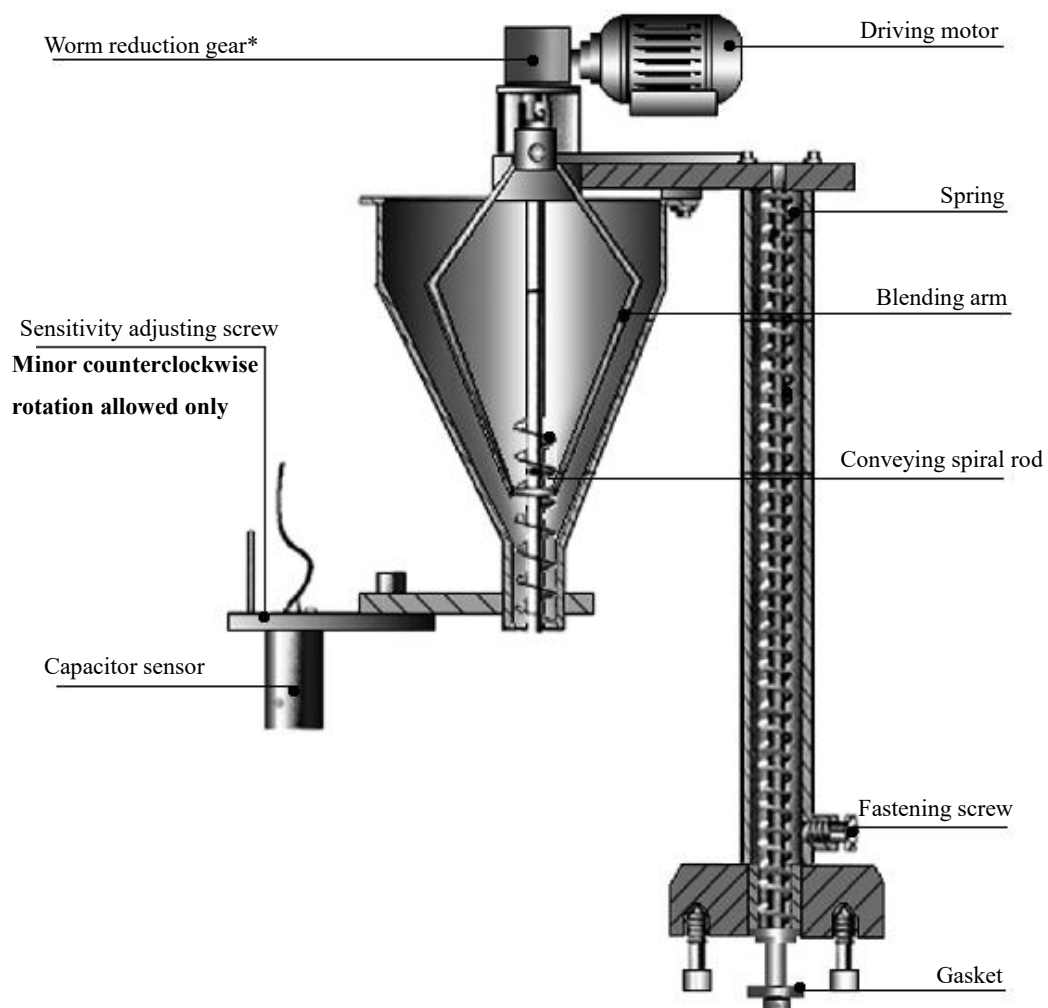

Fig. 9 Feeding Mechanism
5.1.3 Replace dosing disk and filling rod (refer to Fig. 9, 10, 11)
- 5.1.3.1 Loosen fastening screws and raise powder hopper by the resilience of spring; (refer to Fig. 9)